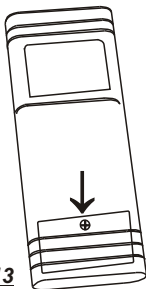

Fig.13
1. Lay the instrument face-down on a clean, flat surface.(See Fig.13)